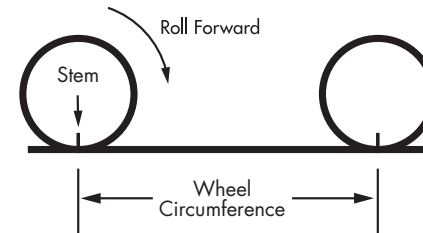

FIGURE 12. ROLL OUT ILLUSTRATION.
3. Roll the wheel one complete revolution until the valve stem is again at the 6:00 position. Read the tape directly under the valve and note the distance in millimeters. (To convert inches to millimeters, multiply inches by 25.4). Use this number to replace the default (default values are 2073 for wheel one, and 2134 for wheel two) when programming your computer. (See figure 12).